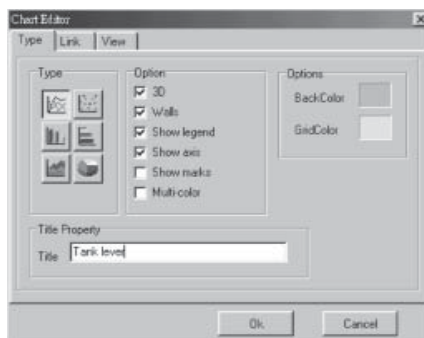

Fig. 4-35 Select the Diagram
2. Select the Input port of the FAB needed to define. Click Type and select the needed shape form as in Fig. 4-35.